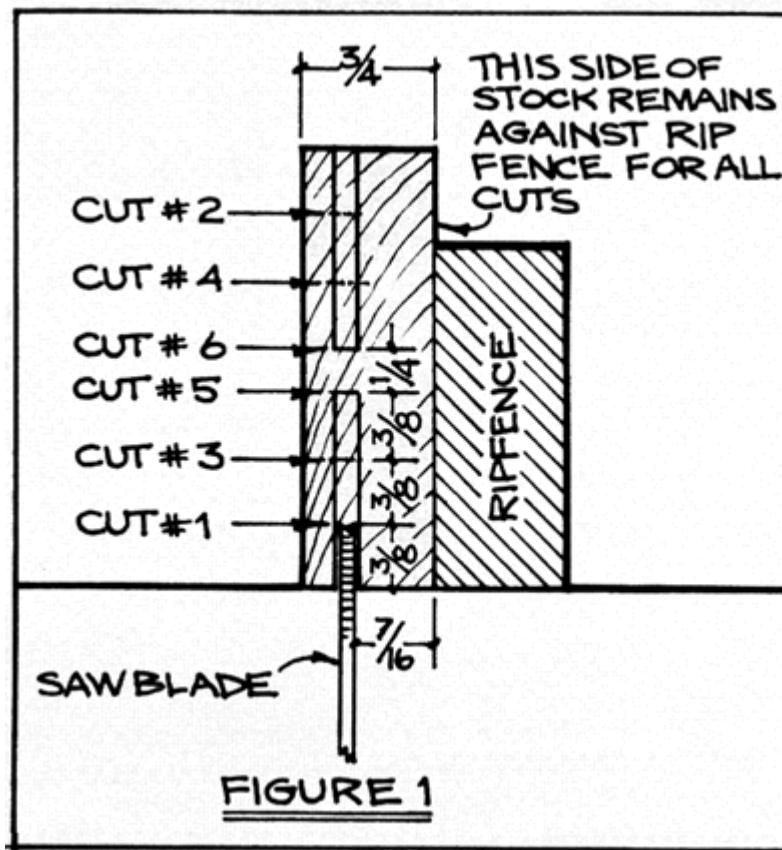

Figure 1. Ripping the Stock
4. Locate the table saw rip fence at a point $\frac{7}{16}$ " from the inside tooth of the saw blade (see **Figure 1**).